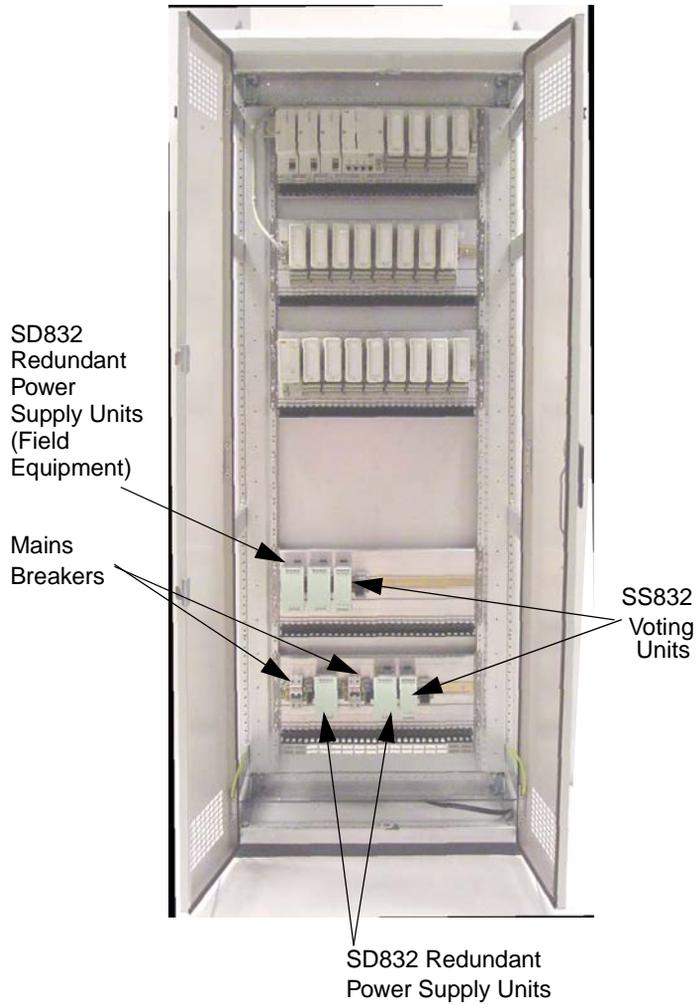

Figure 5.3: Floor Mounted Cabinet - Unit Arrangement (Redundant PSU)
- Figure 5.3 on page 88, Floor Mounted Cabinet - Unit Arrangement (Redundant PSU)